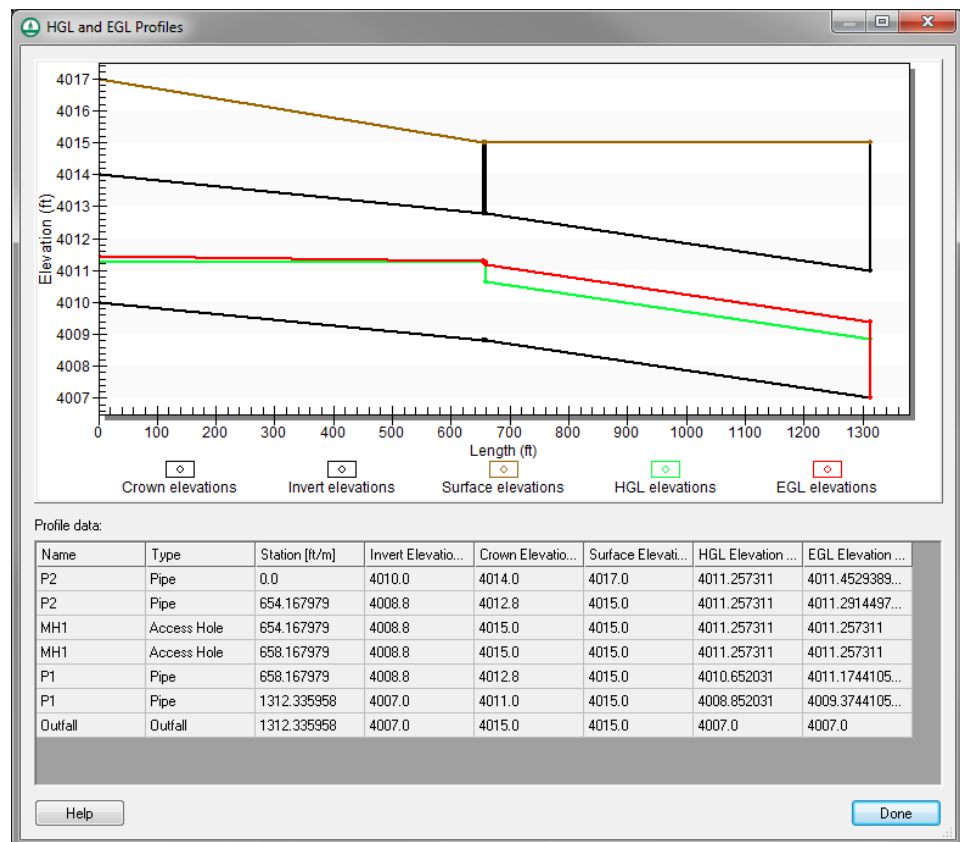

Figure 6 HGL and EGL Profiles dialog
3. Select *HY-12 / View EGL and HGL Plots...* to bring up the *HGL and EGL Profiles* dialog (Figure 6).